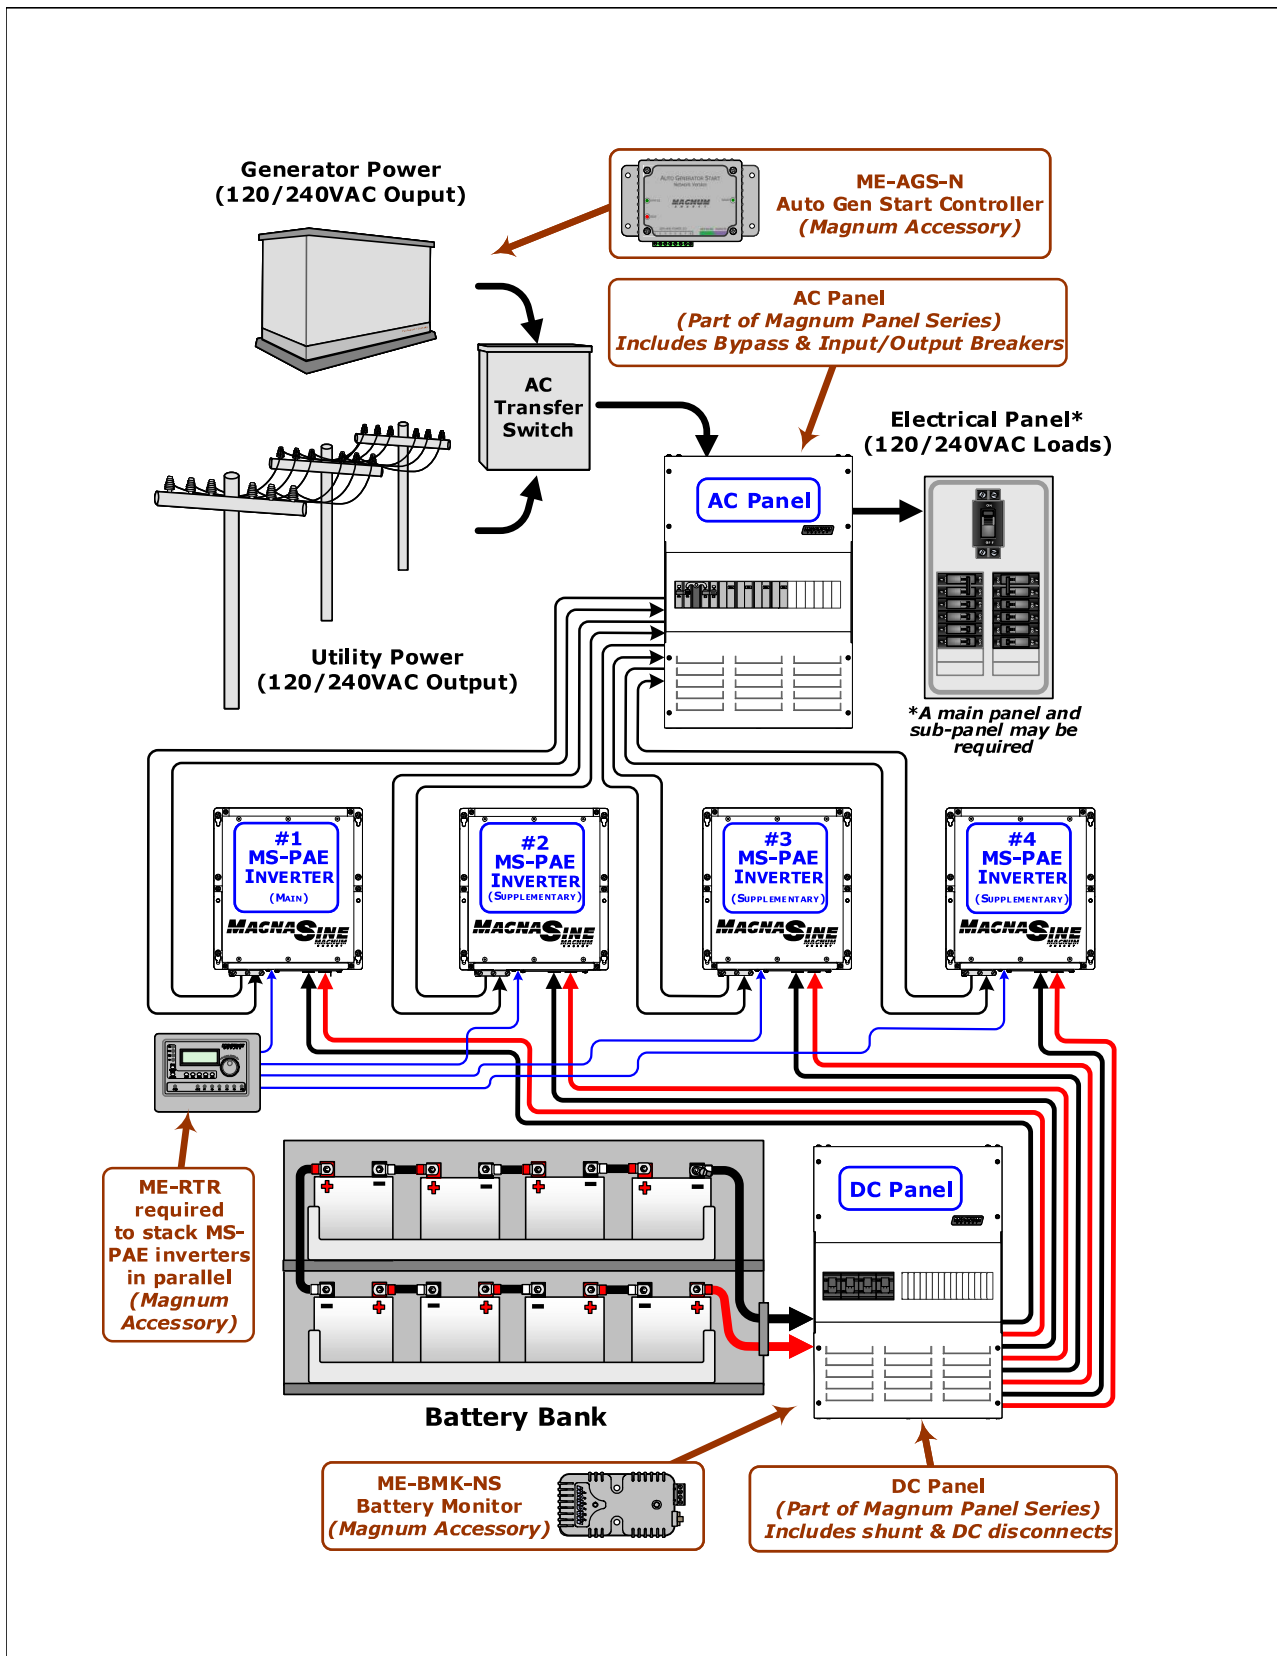
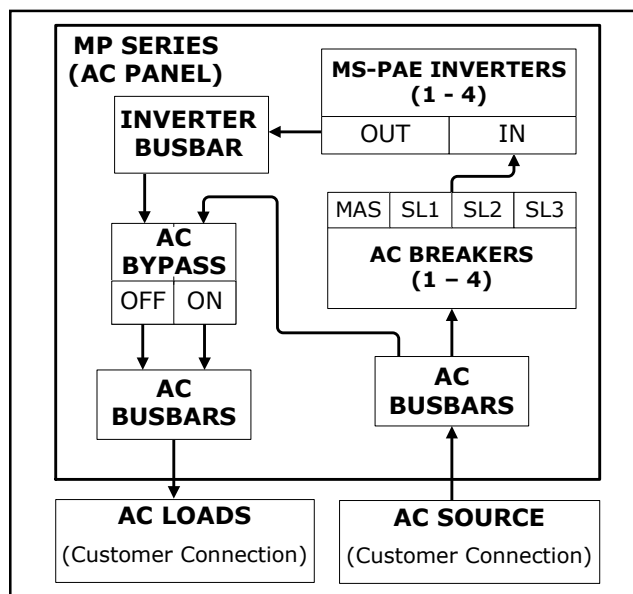

Figure 4-1, Simplified Installation Diagram – Multiple Parallel-stacked Inverters
Figure 4-2, Simplified Panel (AC Panel)
The AC and DC connections in a parallel system depend upon additional separate components (highlighted in **bold** in the two sections below). The Magnum Panel (MP) Series of enclosures (e.g., the AC Panel and DC Panel as shown in Figure 4-1) include all these separate components, with most of the necessary AC and DC wiring connections already completed for you. Figures 4-2 and 4-3 are simplified diagrams of the MP enclosure's AC and DC Panels showing those connections and components. Refer to the MP Owner's Manual for detailed instructions on parallel system connections.